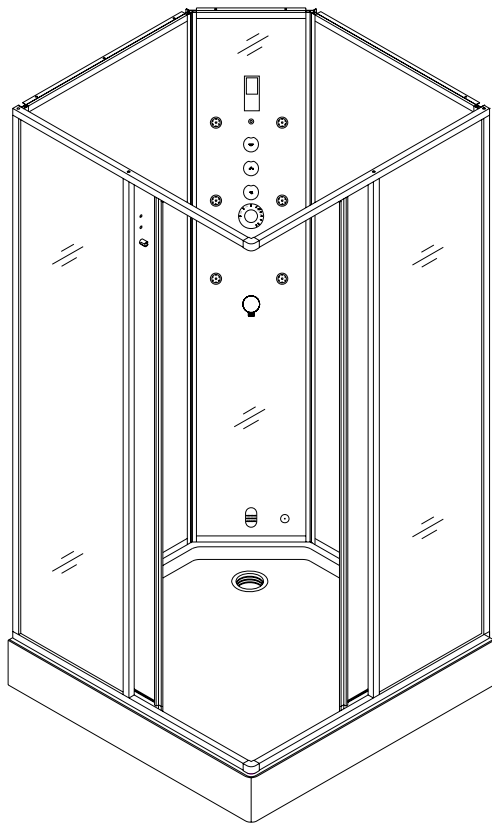

Fig. 9
10. Put the assembly onto the tray and attach it to the **Rear Left & Right stationary glass panels** with **ST4.2x16 screws (12)**. See Fig 9 & 10 for details.